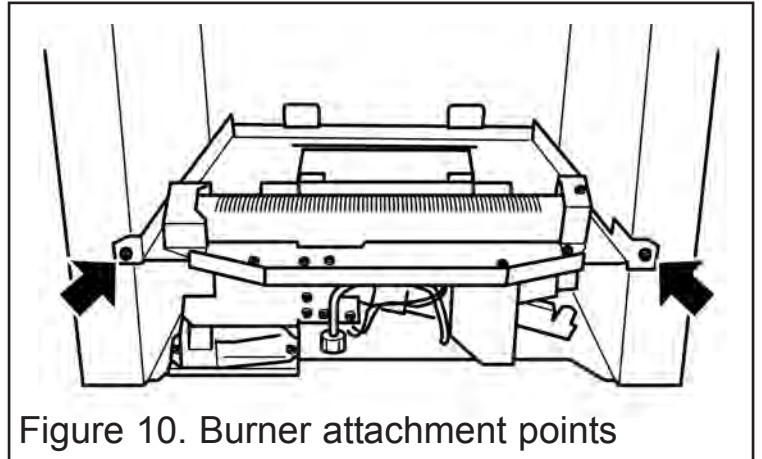

Figure 10. Burner attachment points
1. Detach the burner unit from the convection box by removing two screws (See figure 10). Lift the burner unit clear.